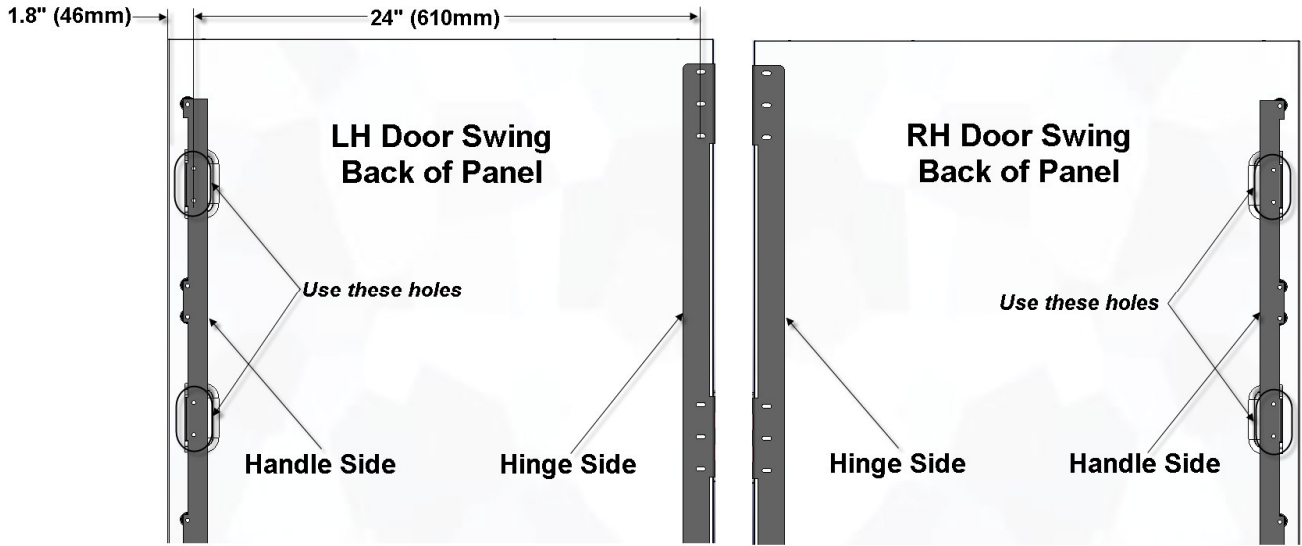

Figure 2
3. Remove the two pieces of mounting hardware attached to the front of the door. Then, attach the two pieces to the back of the stainless steel panel (one for the handle side and one for the hinge side). Use the holes on the handle side bracket as indicated on figure 2. Use the #8-18X1/2 pan head screw on the handle side bracket, and use the, #8-32X1/2 truss head screw on the hinge side bracket.